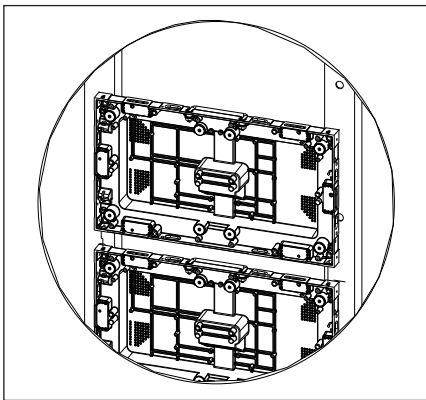

Figure 7: Set Panel in Place
- 2. Place the panel on top of the existing panel, fitting the alignment pins into the recesses. Refer to **Figure 7**.